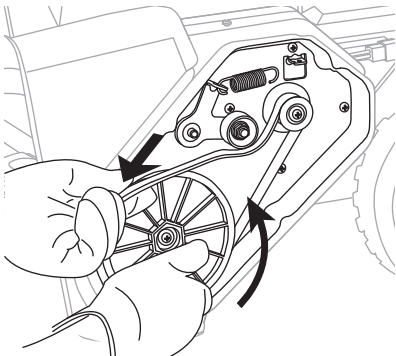

Fig. 14C
4. Remove the drive belt by slowly turning the auger pulley counterclockwise while pulling the belt outwards. (Fig. 14C)